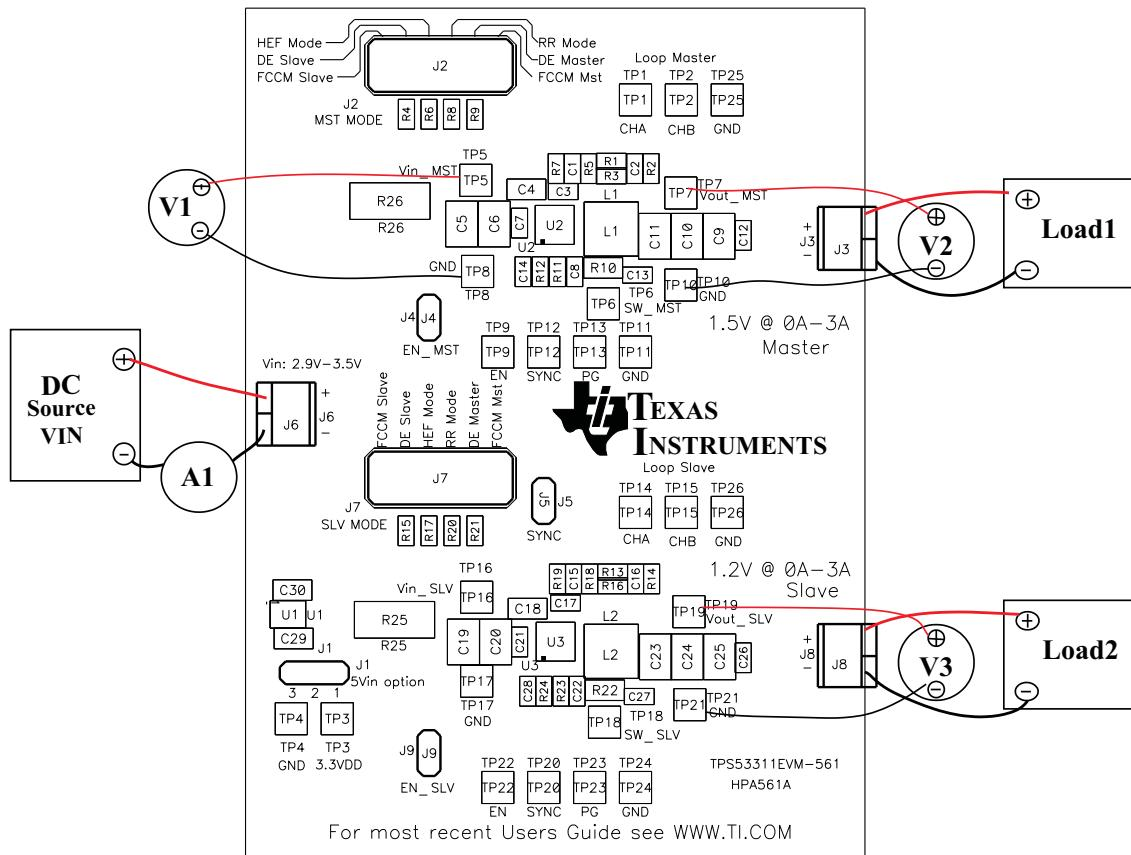

**Figure 2. Tip and Barrel Measurement for Vout Ripple**
**Oscilloscope:** A digital or analog oscilloscope can be used to measure the output ripple. The oscilloscope must be set for 1-MΩ impedance, 20-MHz bandwidth, ac coupling, 1-μs/division horizontal resolution, 20-mV/division vertical resolution. Test points TP7 and TP10 can be used to measure 1.5-V master output ripple voltage. TP19 and TP21 can be used to measure 1.2-V slave output ripple voltage. Place the oscilloscope probe tip through TP7 (TP19) and hold the ground barrel TP10 (TP21) as shown in Figure 2.